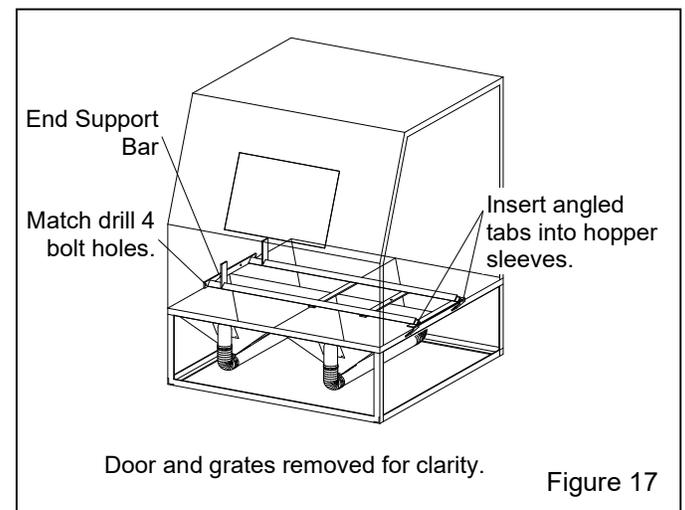

Figure 17
### 3.5.2 Install inside track – Figure 17
**3.5.2.1** Lay the inside track on the cabinet hoppers and above the grate, as shown in Figure 17.